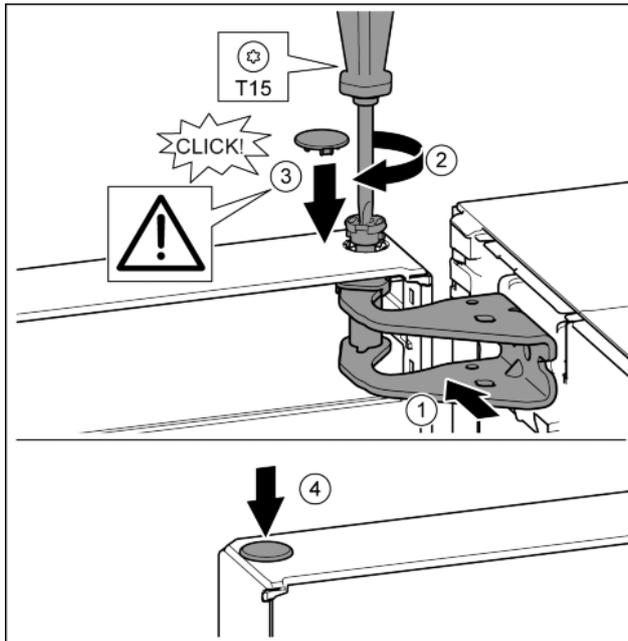

Fig. 15
- ▶ Align the top of the door with opening in the bearing bracket. Fig. 15 (1)
- ▶ Insert the bolt and tighten with a T15 screwdriver. Fig. 15 (2)
- ▶ Fit the protective cover to protect the door: Insert the protective cover and check that it is attached to the door. If not, insert the bolt fully. Fig. 15 (3)
- ▶ Insert the plugs. Fig. 15 (4)